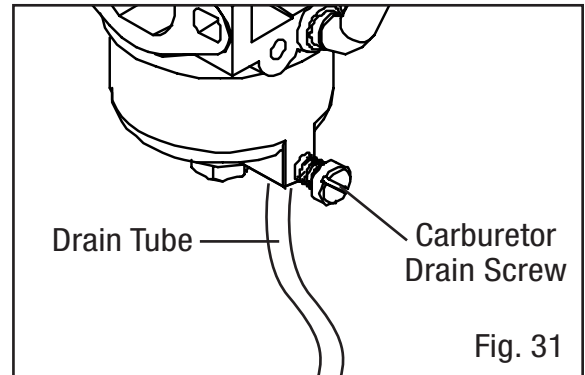

Fig. 31
2. Locate the carburetor and the transparent drain tube that extends down through the base plate of the generator (Fig. 31).
5. Open up the carburetor drain screw (Fig. 31) with a flat-head screwdriver (not included). Fuel will start draining from the carburetor and fuel tank through the drain tube.